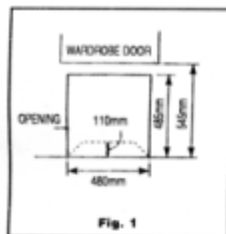
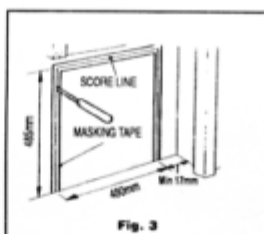

Fig. 1
Fig. 3
The heater is normally fitted into the panel below the wardrobe door or cupboard. Before commencing any fitting, ensure that the appliance will fit into the desired position (see fig 1). The main installation box will be recessed into the panel of the wardrobe by 110mm, on "A" and "P" models; 245mm in the case of the "FANMASTER" MODELS
4.5 When satisfactory, mark the hole to take the installation box. This will require a hole to be cut in the panel 485mm high (from the floor, below floor covering) x 480mm wide (Fig 1). It is recommended that the panel surface is protected by masking tape. Score the line to be cut with a sharp knife, to stop the veneer lifting (see fig 3). If the panel is of the hollow type, then the void must be filled locally along the opening with wood.